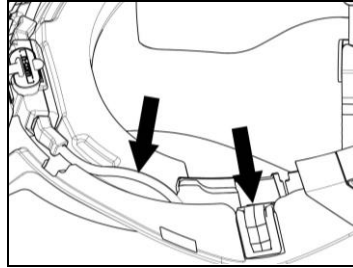

Fig. 16
- Fix the cable inside the helmet and make sure the left fixing clip snaps into its housing (Fig. 16).